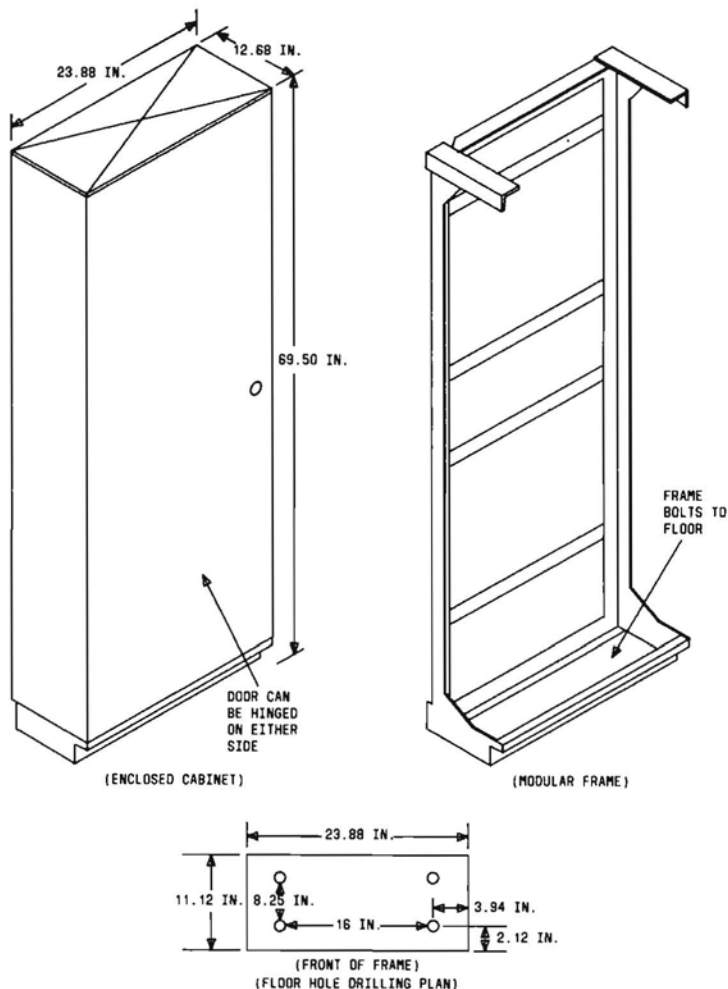

Fig. 19—50A Cabinet†
4.11 The 50A cabinet (Fig. 19) is specifically intended for holding 18SP-type terminal blocks and 188-type backboards in installations of the Customer Administered Terminal Move Service (CATMS) where wall mounting is not desired. It consists of a modular frame and optional front/rear doors, side panels, and top cover to convert the open frame to an enclosed cabinet. Two full-size terminal blocks and one backboard can be mounted in the 50A cabinet. It can be installed in free-standing